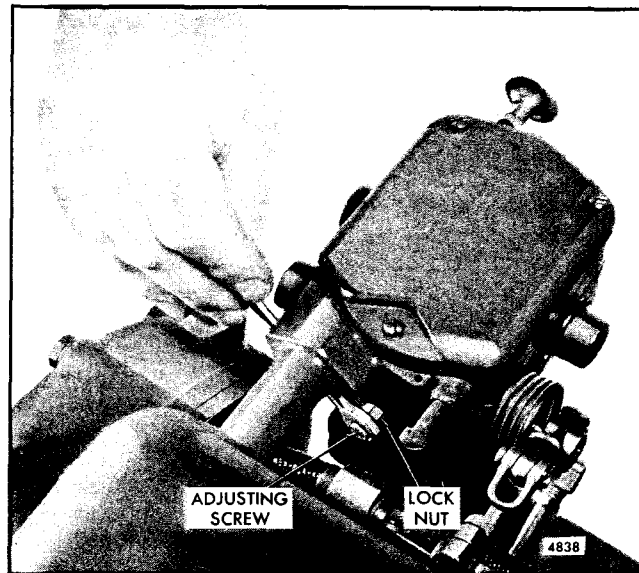

Fig. 5 - Adjusting Maximum No-Load Speed
3. Loosen the lock nut (Fig. 5) and back off the maximum speed adjusting screw approximately 3/8 ".